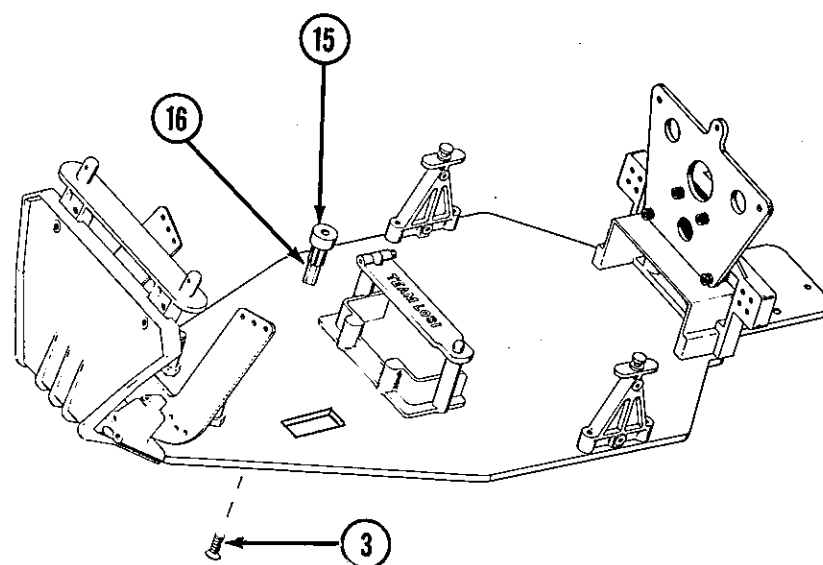

FIG. 9
15. Snap antenna mounting cap (15) onto antenna mount (16) and secure antenna mount (16) onto chassis (2) using one 4-40 x 3/8" flathead screw (3). Fig. 9.